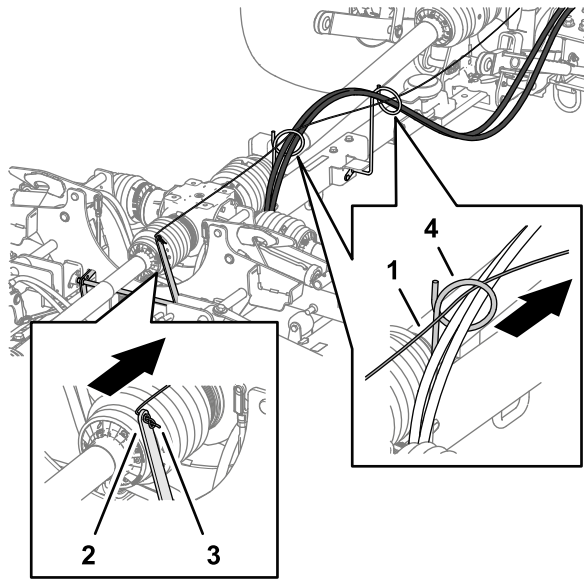

Figure 12
2. Route the free end of the deck-lock rope from the lock lever through the 2 hose guides (Figure 12).